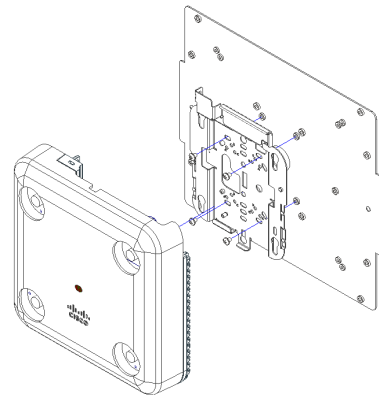
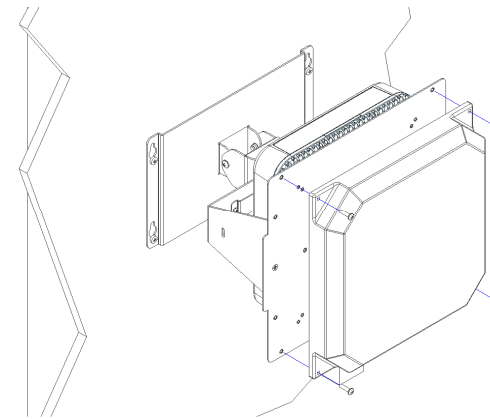
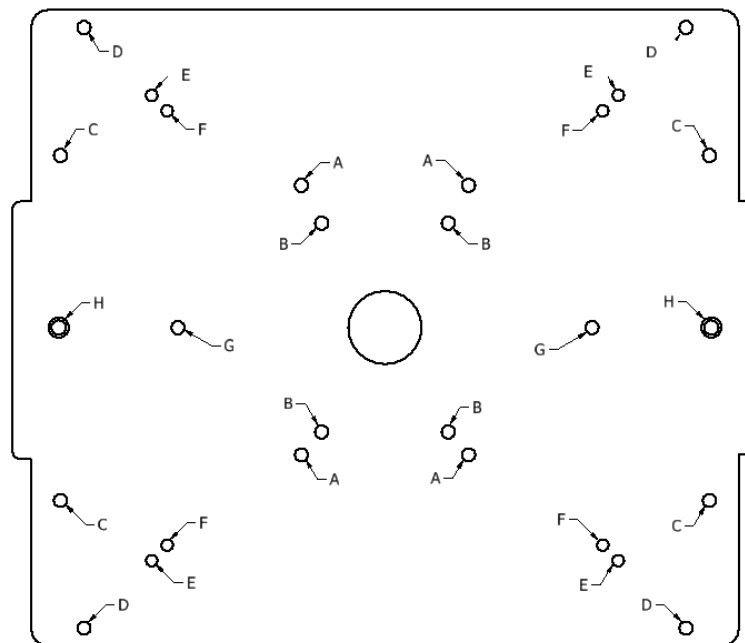

Figure 2
Figure 4
Figure 6
**Step 2a (Cisco Access Points Only)** – Use the legend on the back page to determine which hole pattern to use (Figure 6). Securely fasten the *access point's mounting bracket* to the back side of the Antenna Mounting Plate, side with press nuts, using the included (4) # 8-32 x 3/16" screws (Figure 2).
**Step 4** – Use the legend on the back page to determine which hole pattern to use (Figure 6) for antenna attachment. Use #8-32 x 5/8" screws to attach Cisco antennas and #6-32 x 1/2" screws for Aruba Antennas (Figure 4). If no hole pattern is available, use the provided Dual-Lock Tabs to adhere the antenna to the Antenna Mounting Plate. Peel one side of both pairs and apply to the clean backside surface of the antenna. Peel the other side of the Dual-Lock Tabs and adhere to the Antenna Mounting Plate.